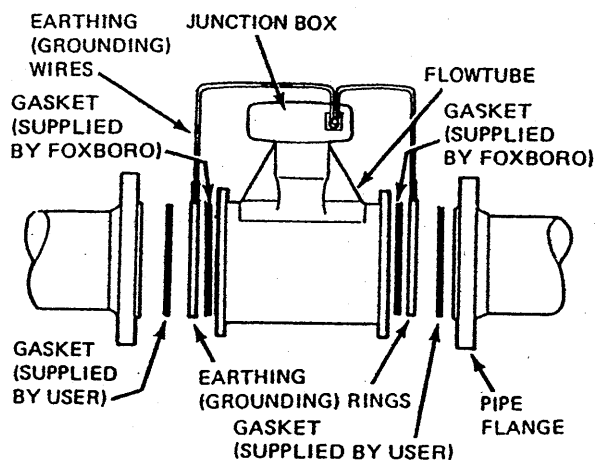

Figure 5.
Continuity between flowing liquid and metal metering tube is required to provide a reference for the measurement signal. Earthing (grounding) wires are provided on the junction box for this purpose. The grounding wires are shown in Figure 5. Additional grounding details are given in "System Wiring" section.
When the flowtube is mounted between non-metal or lined metal pipe, installation of earthing rings (grounding rings) on each pipe flange is required as shown in Figure 5. Continuity is provided by connecting the grounding wires from the flowtube junction box to the grounding rings.
3. If grounding rings are not being used (see "Flowtube Earthing"), drill and tap a hole in each pipe flange to accept grounding wires. If grounding rings are being used, connect grounding wires to the grounding rings. Grounding wires are located on flowtube junction box as shown in Figure 5. Lugs on end of grounding wires will accept an M6 or 1/4-20 screw.